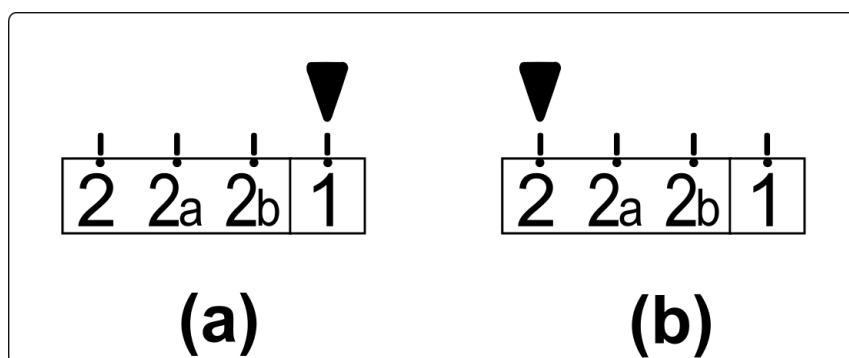

Fig.89 - Reading positions on the densitometer (balanced test)
- 1) Select on the densitometer the position nr.1 (fig. 89 - a). Insert the target by the 1 side, following the direction shown by the arrow.
- 2) Select on the densitometer the position nr.2 (fig. 89 - b). Insert the target by the 2 side, following the direction shown by the arrow.